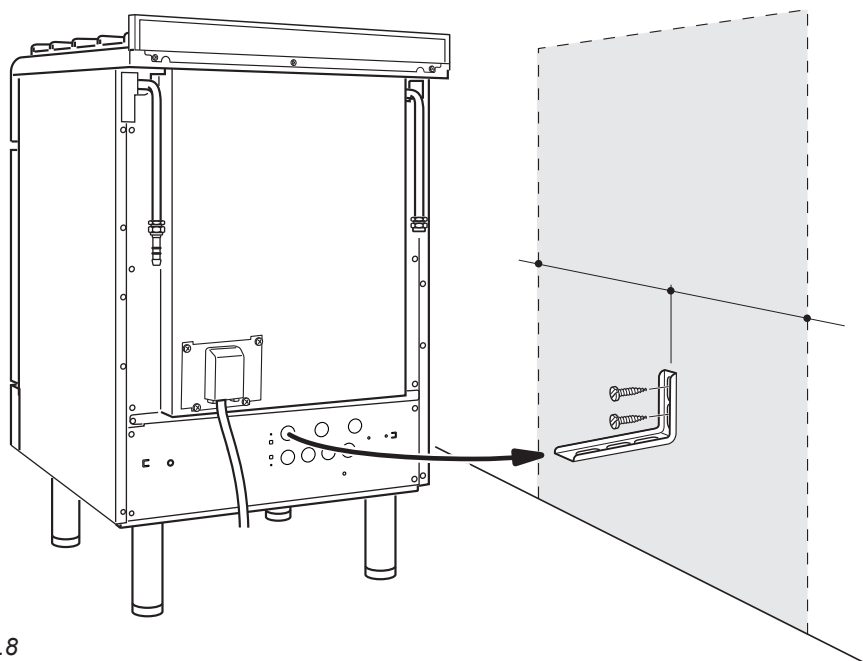

Fig. 7.8
1. After you have located where the cooker is to be positioned, mark on the wall the place where the 2 screws of the anti-tilt bracket have to be fitted. Please follow the indications given in fig. 7.8.
4. Move the cooker to the wall and adjust the height of the anti-tilt bracket so that it can engage in the slot on the cooker's back, as shown in fig. 7.8.